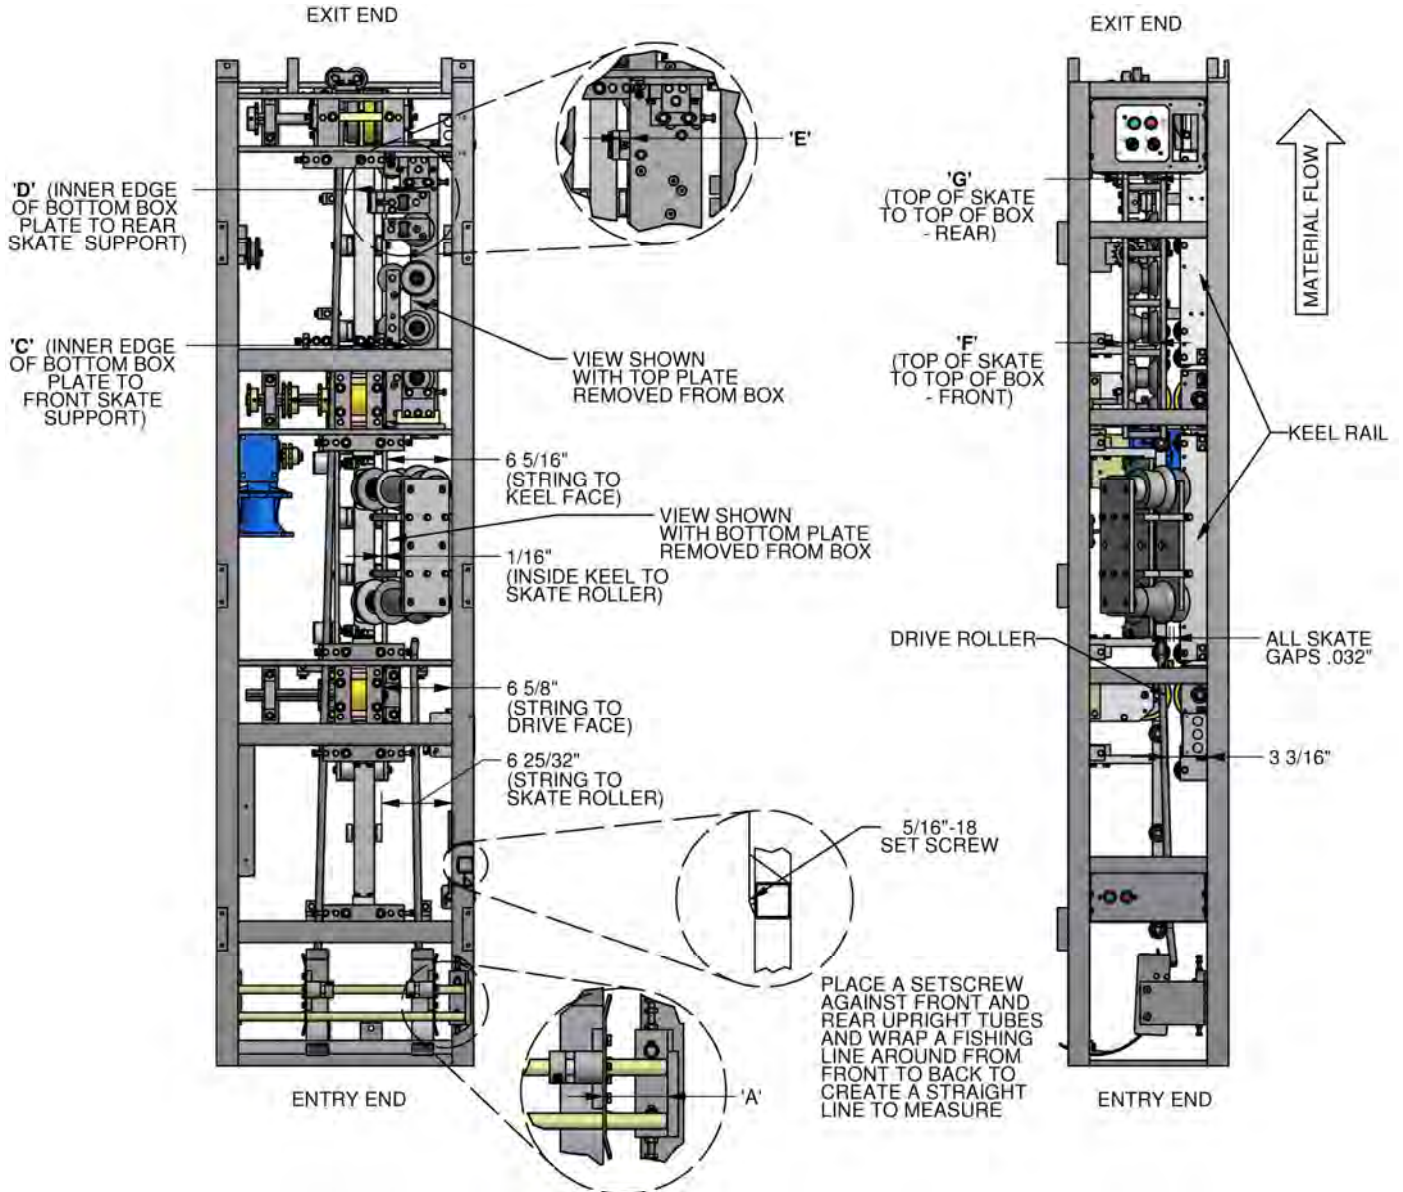

Figure 27: Basic Setup Dimensions (See table below)
(Figure 27)
Use a 30lb. fishing line as the alignment string. The string is attached to either end of the machine as shown. Use two (2) 5/16" diameter set screws and place them at either end between the string and the vertical upright on the frame as shown in Figure 27.